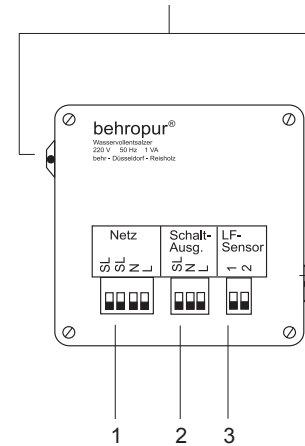

Fig 5: Built-in version of a conductivity meter with limit switch
- Slide on the bracket included in the delivery (Fig. 5) and screw on the conductivity meter.
- Connect the cables from the rear of the conductivity meter (Fig. 5) like this: